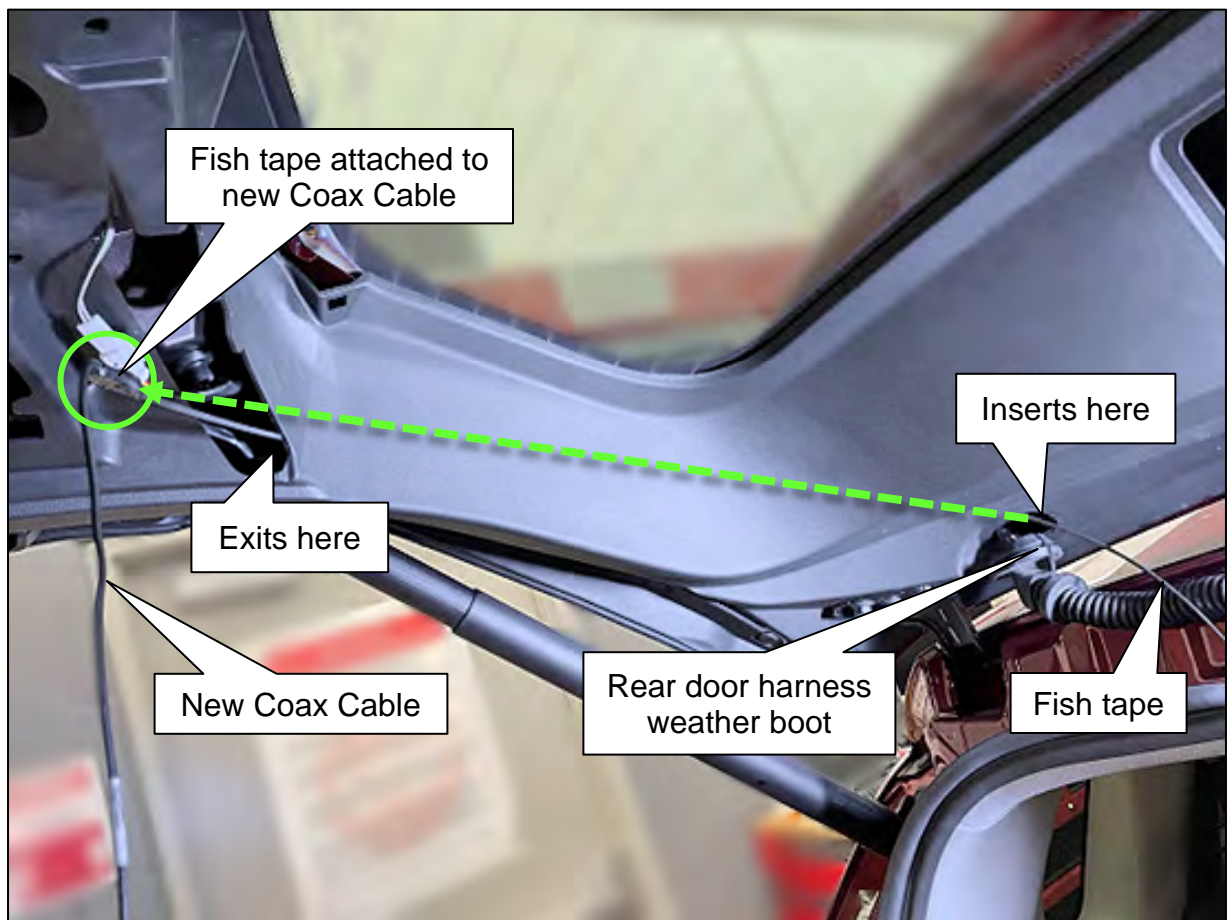

Figure 13
18. Detach the harness weather boot from the rear door, where shown in Figure 13.
19. Insert a fish tape into the opening that the harness weather boot was just detached from, and then guide it through the rear door and out where shown in Figure 13.